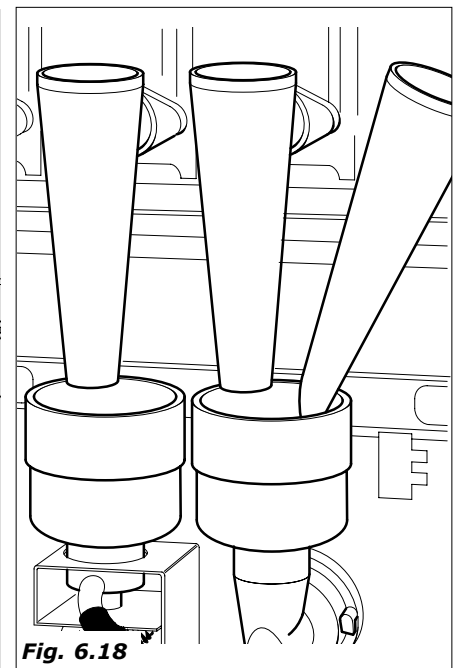

Fig. 6.18
- At the end of the water filling, effect a cleaning cycle of the mixer group so as to fill all the circuits and remove eventual residues from the boiler (Fig.6.18).